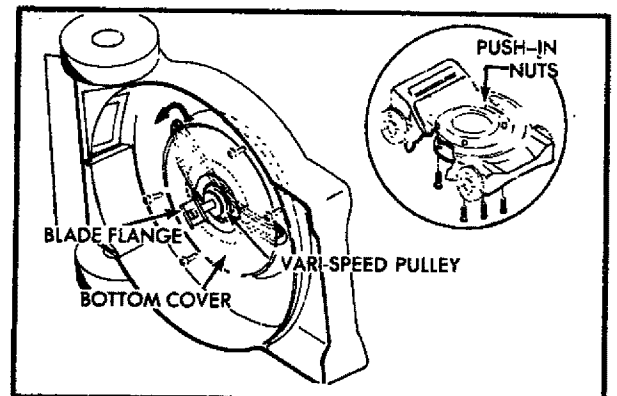

FIG. 28
4. Loosen and remove the (4) phillips head screws holding bottom cover to underside of mower housing (See Fig. 28).
6. Remove belt from vari-speed pulley on crankshaft, and carefully remove the belt off over bottom cover and blade (See Fig. 28).